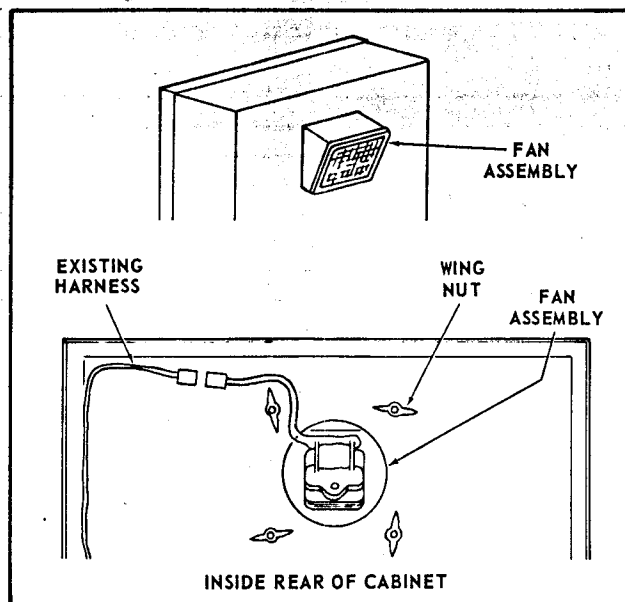

Figure 1-2. Installing Cabinet Fan
- D. From the rear of the Cabinet, locate the Fan Assembly over the opening provided. Insert the Fan harness through the opening. See Figure 1-2.